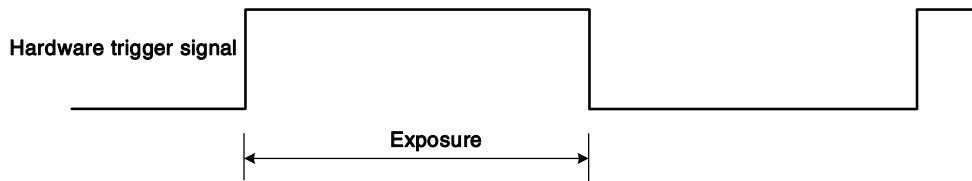

Figure 8-28 The sequence diagram in rising edge trigger of TriggerWidth exposure mode
- If rising edge triggering is enabled, exposure starts when the trigger signal rises and continue until the trigger signal falls, as shown in Figure 8-28